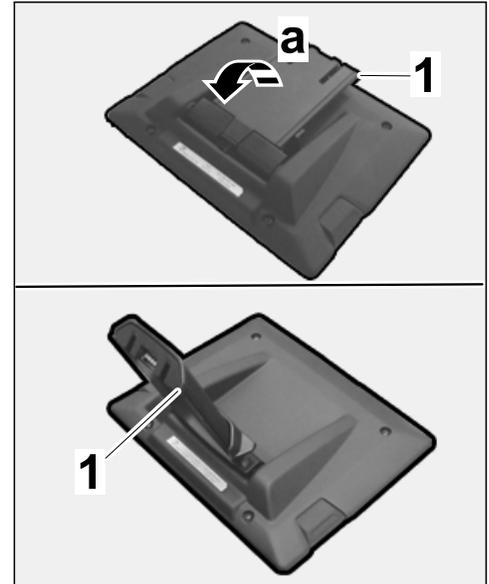

Figure 6
3.1 Fold mounting arm (⇒ *Figure 6-1-*) up (⇒ *Figure 6-a-*).